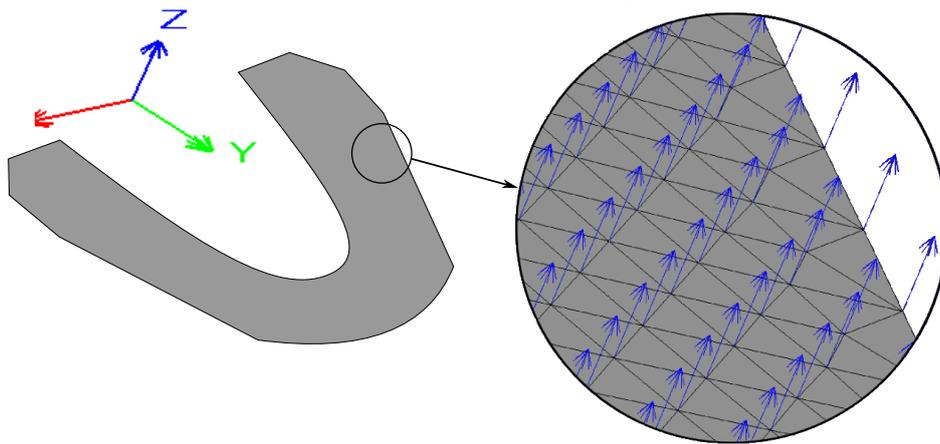

Figure 2.4: Detail of a mesh (direction of normals)
4. The model base plate must be perfectly flat as it represents the boundary of the model, i.e. there must not be mesh parts below the flat horizontal surface that will be the bottommost contact area with the model. All normals shall be facing upwards, i.e. they shall point in direction of the positive  $z$ -axis (see Figure 2.4).